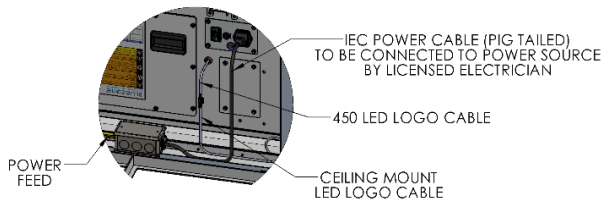

Figure 22: Bring Wires to Junction Box
10. Connect the main service to the pig tail as shown in Figure 22.